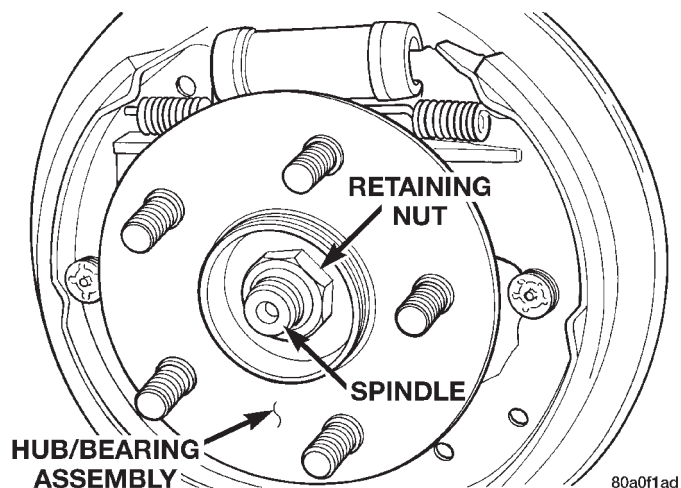
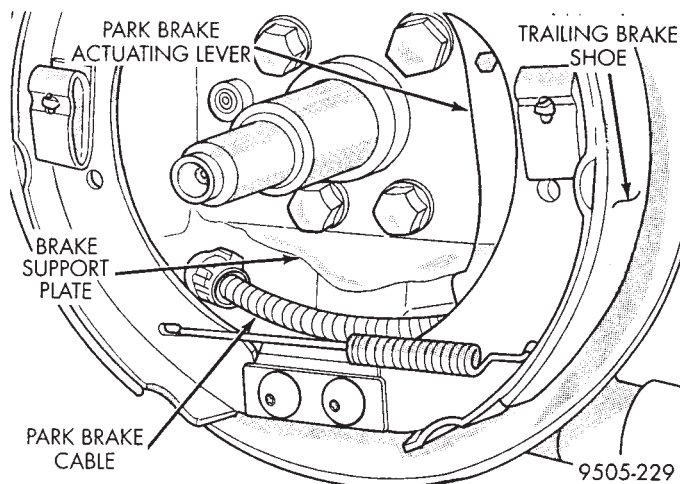
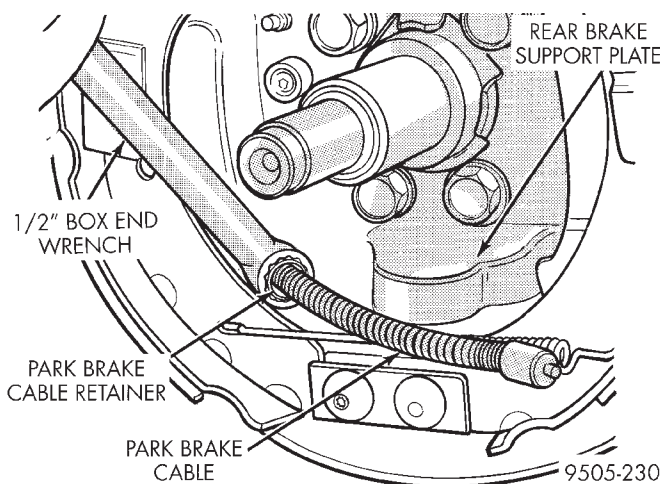
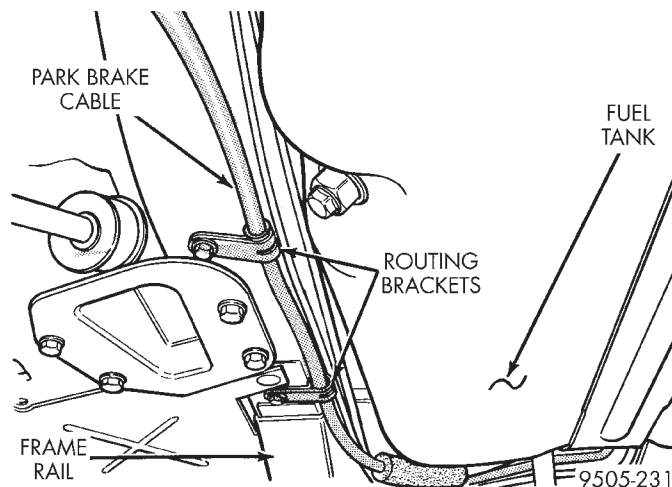

**Fig. 142 Hub/Bearing Retaining Nut**
**Fig. 143 Rear Park Brake Cable At Actuating Lever**
**Fig. 144 Park Brake Cable Removal From Brake Support Plate**
**Fig. 145 Park Brake Cable Routing Brackets**
(23) Remove the rear hub/bearing retaining nut (Fig. 142).
(24) Remove the hub/bearing from the spindle.
(25) Remove the park brake cable from the park brake actuating lever on the trailing brake shoe (Fig. 143).
(26) Remove park brake cable (Fig. 144) from rear brake support plate. Park brake cable is removed from brake support plate using a 1/2 in. wrench as shown in (Fig. 144) to compress locking tabs on park brake cable retainer.
(27) Raise vehicle.
(28) Remove the 2 routing brackets (Fig. 145) attaching the park brake cable to the vehicle frame rail.
(2) Install the 2 park brake cable routing brackets (Fig. 145) on the frame rail. Install and securely tighten the routing bracket attaching bolts.
(3) Install the park brake cable into the rear brake support plate **but do not** lock the locking tabs on the cable attachment retainer into the brake support plate.
(4) Install the park brake cable on the park brake actuating lever of the trailing brake shoe (Fig. 143). **Be sure the end of the spring is under the lip on the park brake actuating lever.**
(5) Push the park brake cable fully into the rear brake support plate. Be sure locking tabs on cable retainer are expanded to ensure park brake cable is securely held in the support plate.
(6) Install hub/bearing assembly on rear spindle. Then install **a new** rear hub/bearing assembly retaining nut (Fig. 142). Torque hub/bearing assembly to spindle retaining nut to 250 N·m (185 ft. lbs.).